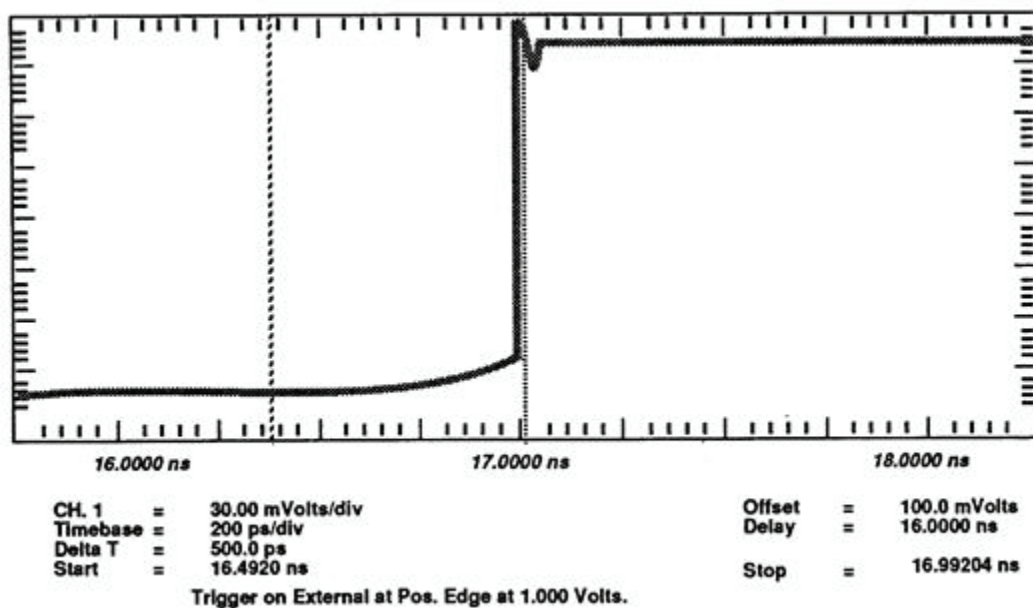

Figure 19. Adjusting TDR pulse to stop marker.
m. Adjust TDR BIAS on horizontal assembly A1 (fig. 11) until the rising edge of the step coincides with the **STOP MARKER** (fig. 19). If this adjustment does not line up with the **STOP MARKER**, return to j above and adjust TDR DRIVE (fig. 11) slightly more cw.